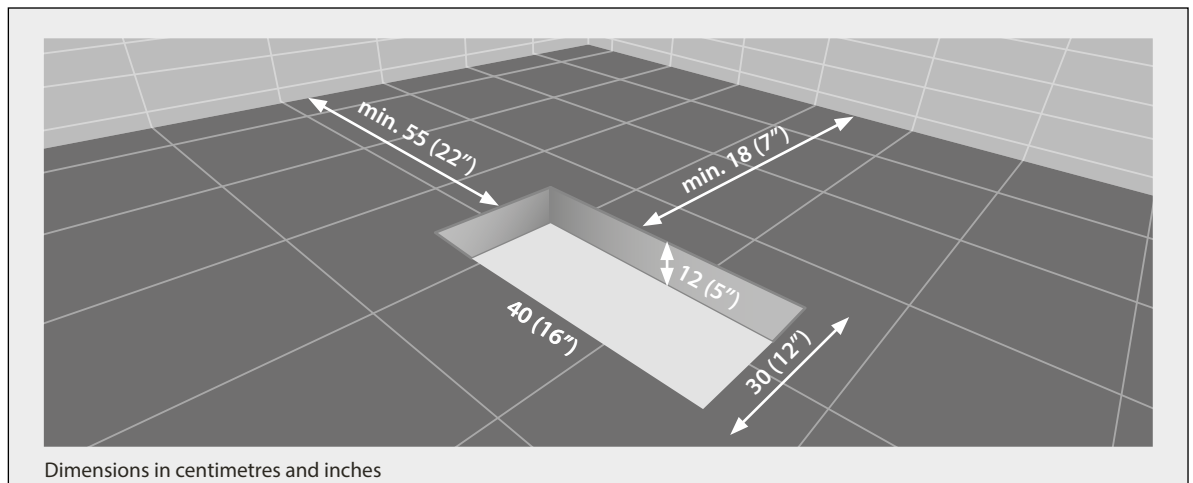

Fig. 2
- If the tub is placed on the floor, drill a hole of the size indicated in the figure below; the trap must be suitably positioned bearing in mind the dimensions of the tub (see Fig. 2).